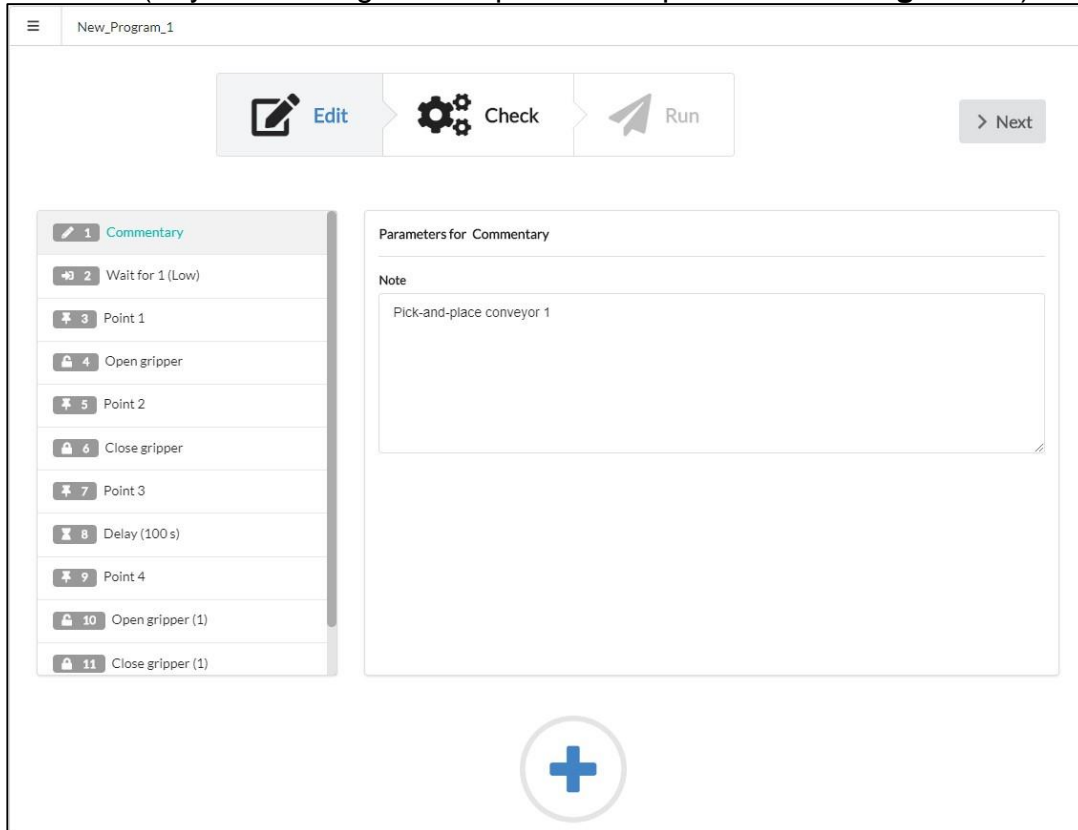

Figure 5-4: Adding a comment to a program
2. On the **Edit** screen, click  to open the **Add Commands** menu and click **Comment**. The **Commentary** line appears in the program body below the selected command (or you can drag-and-drop it to the top as shown in **Figure 5-4**).